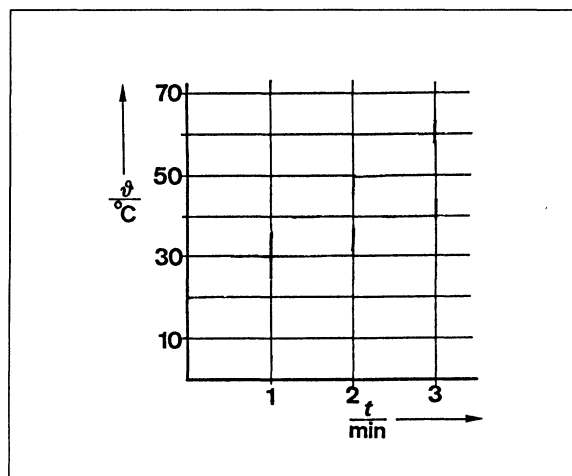

Fig. 2 Diagram on the dependence of the temperature increase as a function of time for different liquids
12. Copy the measured values into the diagram in fig. 2.